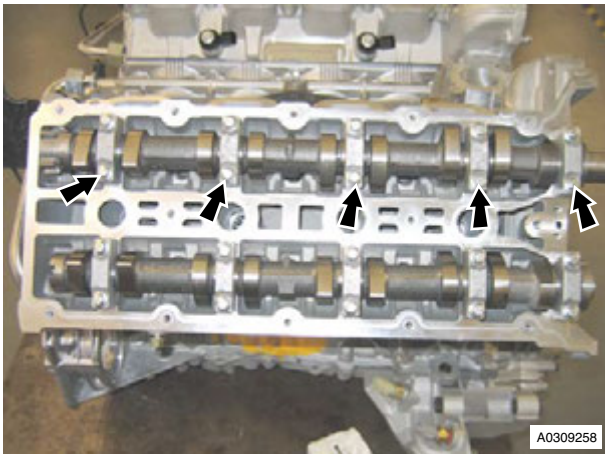

Figure 2 (Right Side Shown)
5. Loosen the bolts that attach the ten intake camshaft bearing caps gradually, in steps (refer to Figure 2 - Right side shown).